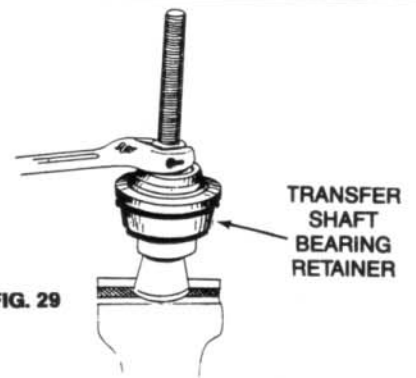

FIG. 29
2. **PRESS INTO POSITION:** As described on page 7, section 2. (Fig. 29)